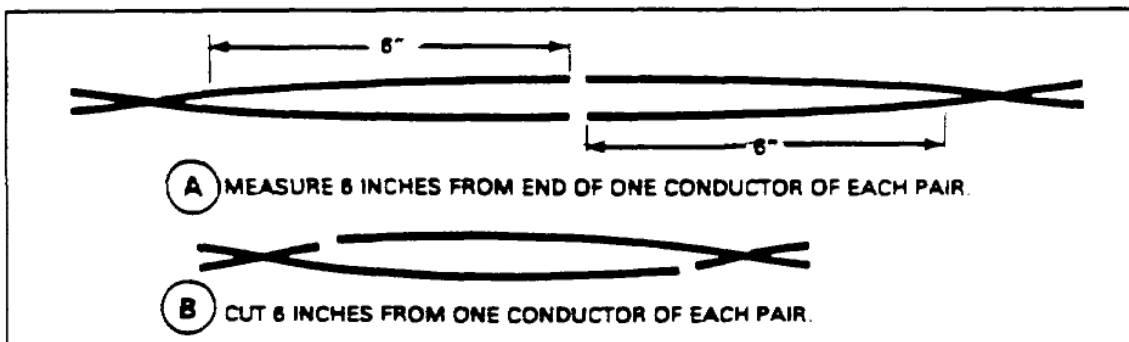

Figure 6-14. Conductors staggered for splicing.
- Cut one conductor of each pair 6 inches (or one plier's length) from the end (figure 6-14). (For WD-1A/TT, separate conductors first.)